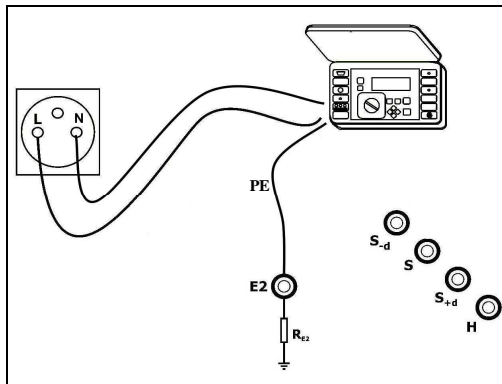

Figure 14. Connection of the meter.
- connect meter of the short circuit loop impedance in accordance with Figure 14,